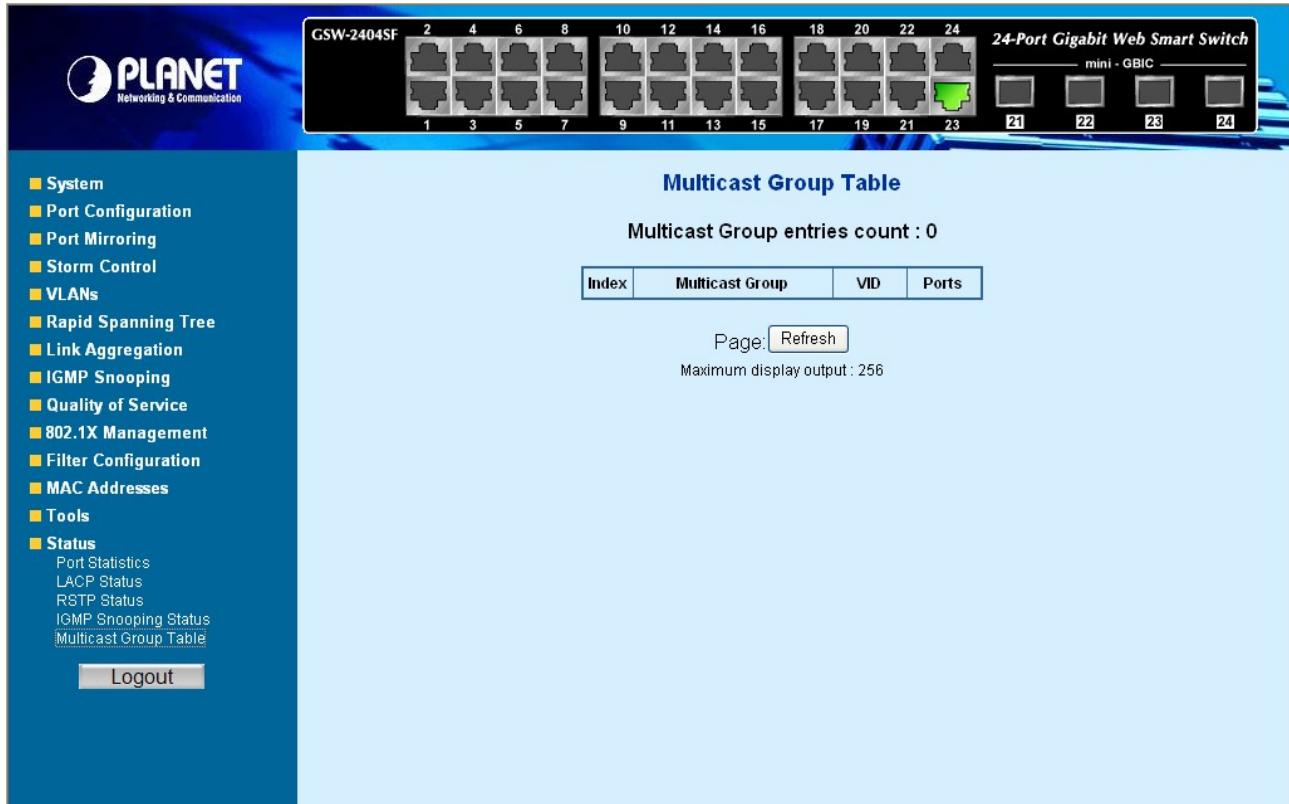

Figure 4-37 The Multicast Group Table screen
2. The Multicast Group Table screen is displayed as in Figure 4-37.